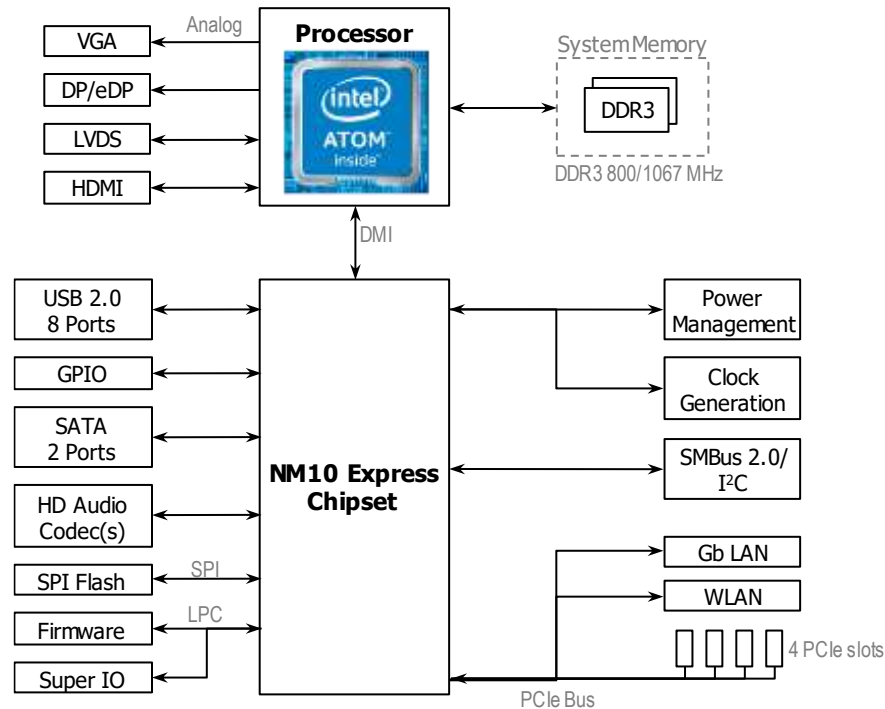

Figure 8. Intel Atom™ D2000/N2000 Series System Block Diagram. Source: Intel Atom™ Processor D2000 and N2000 Series Datasheet.
- For example, Fig. 8 depicts the System Block diagram for the Intel Atom™ D2000/N2000 series. Unlike the system of Fig. 5, the chipset only implements the I/O functionality, while the memory controller and graphics are integrated in the processor in a single die: